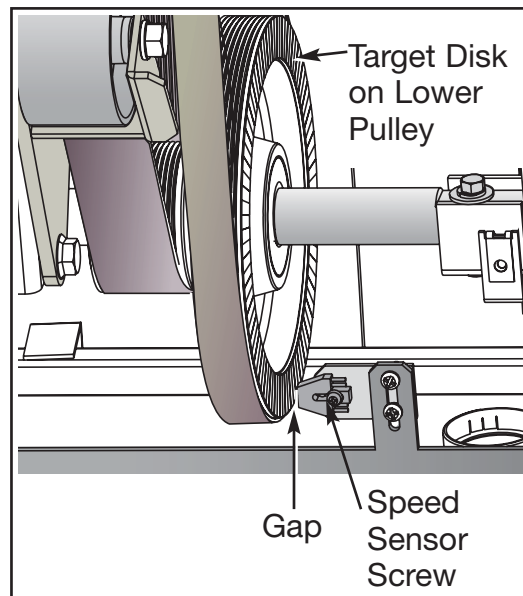

Figure 3
- A. Turn the lower pulley slowly and look for dirt, scratches or other damage on the target disk. See Figure 3. **NOTE: If the target disk or speed sensor is dusty use a soft dry cloth to wipe off the dust. A dirty, scratched or damaged disk may cause Error 3 to occur.**
- A. Measure the gap between the speed sensor and the lower pulley. It should measure 3/16" (.48 cm) and should be parallel to the lower pulley. See Figure 3.
- A. Using a Phillips head screwdriver, loosen the screw securing the speed sensor in place. See Figure 3. **NOTE:** *Gently bend the side cover to get at the speed sensor screw.*
- B. Adjust the gap between the speed sensor and the lower pulley to 3/16" (.48 cm) and tighten the screw. See Figure 3.